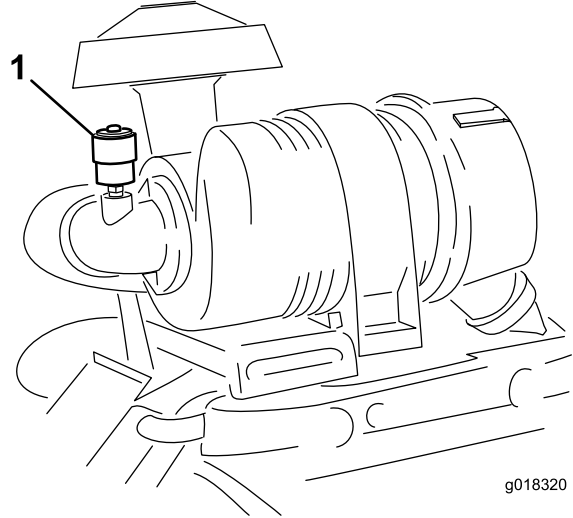

Figure 43
Note: Service the air cleaner filter only when the service indicator (Figure 43) requires it. Changing the air filter before it is necessary only increases the chance of dirt entering the engine when you remove the filter.
6. Reset the indicator (Figure 43) if it shows red.